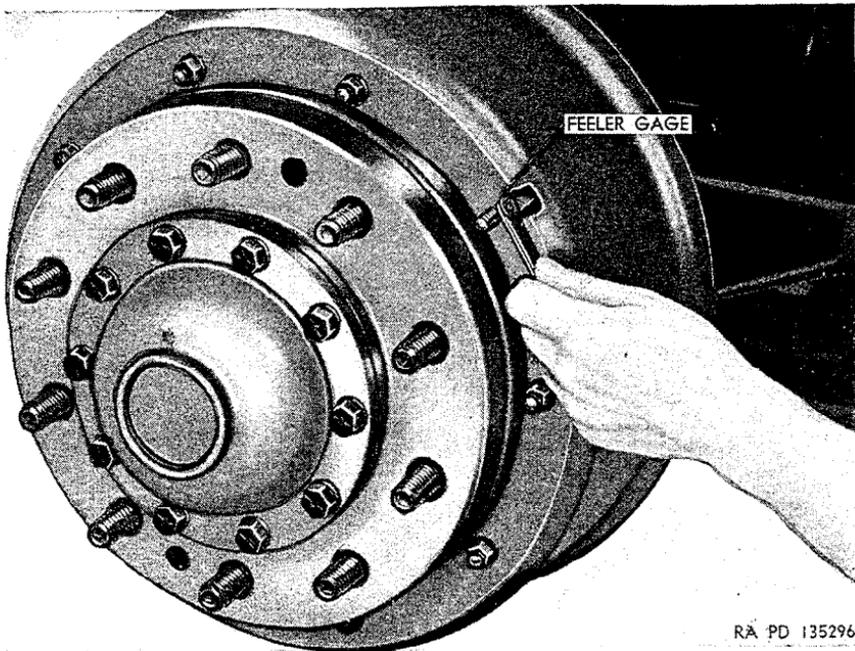
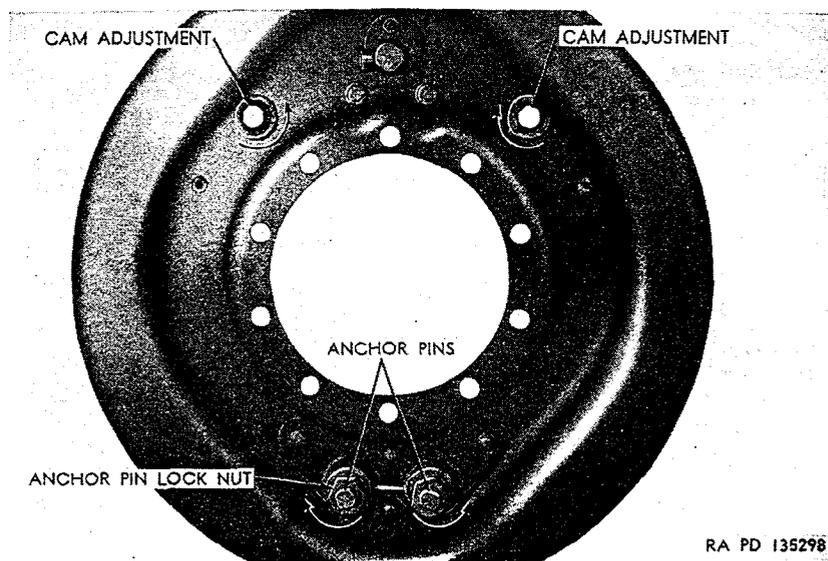

Figure 242. Checking clearance between brake shoe and drum.
Figure 243. View of back side of backing plate assembly removed from axle.
- (2) Rotate brake drum until inspection hole is $1\frac{1}{2}$ inches above lower end of rear brake shoe. Insert feeler gage in inspection hole (fig. 242) to determine clearance between brake shoe and drum. Clearance should be 0.010 inch at this point.
- (3) If clearance between shoe and drum is incorrect, adjust clearance ((a) and (b) below).
- (a) Loosen rear anchor pin locknut (fig. 243) at back side of backing plate.
- (4) Rotate brake drum until inspection hole is $1\frac{1}{2}$ inches below upper end of rear brake shoe. Insert feeler gage in inspection hole to determine clearance between brake shoe and drum. Clearance should be 0.020 inch at this point.
- (7) Holding anchor pins (fig. 243), to prevent them from turning, tighten both anchor pin locknuts and check brake shoe clearances again.